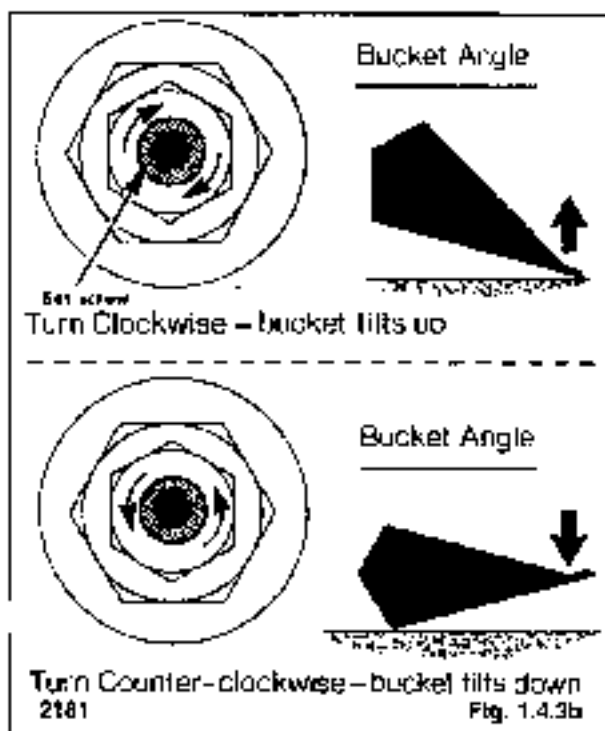

Fig. 1.4.3b
7. Turn adjustment screw "in" or "clockwise" a slight amount if bucket tilts down during upward operation of the boom. See fig. 1.4.3b.
Turn adjustment screw "out" or "counter-clockwise" a slight amount if the bucket tilts up during upward operation of the boom. See fig. 1.4.3b.